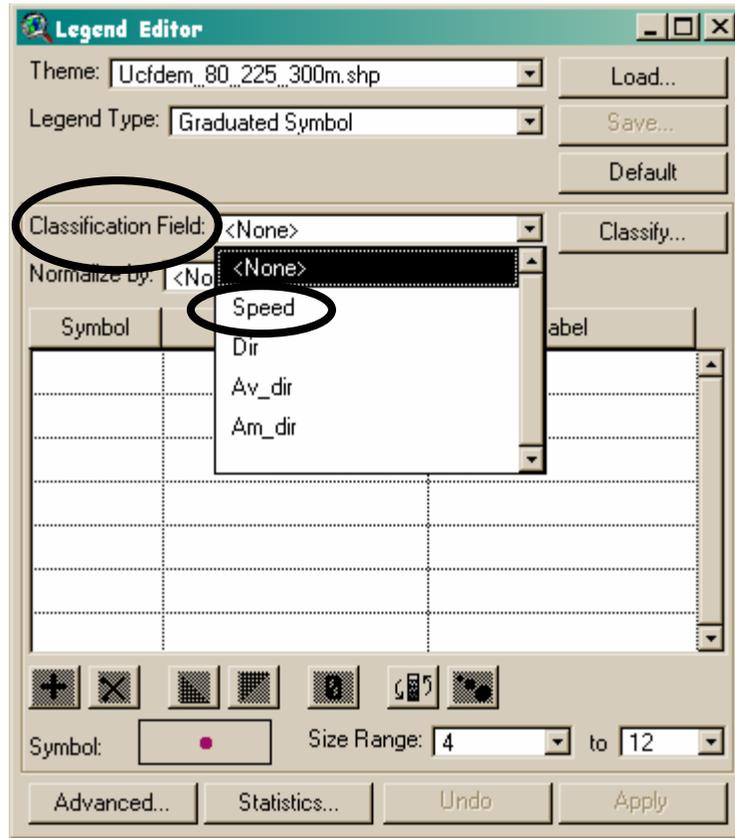

Figure 3. Legend Editor dialog box showing Classification Field selection for display in ArcView.
3. In the **Classification Field** select Speed. This will scale all the arrows for the shapefile by the respective windspeed value in mph (Figure 3).